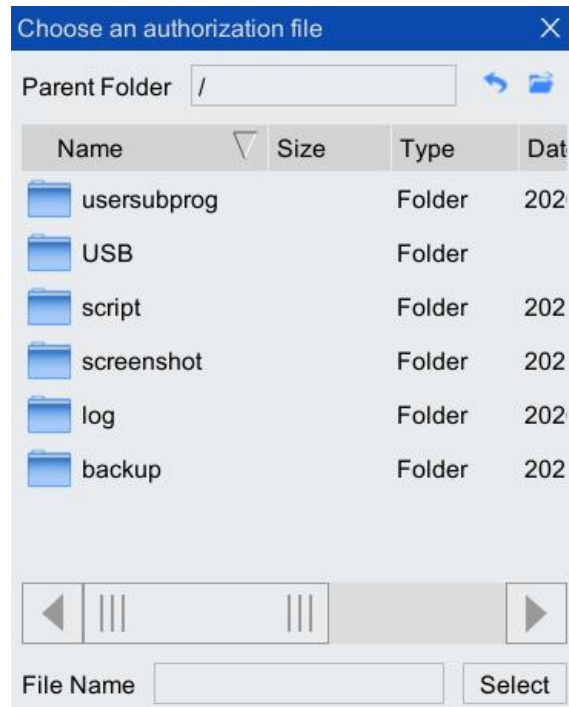

Figure 2-11 Select authorization file dialog box
- Step3. Click [authorization import] to open the [choose an authorization file] dialog box shown in Figure 2-11. Under the USB folder, find the authorization file and click to select it. Click the < Select > button to start authorization.